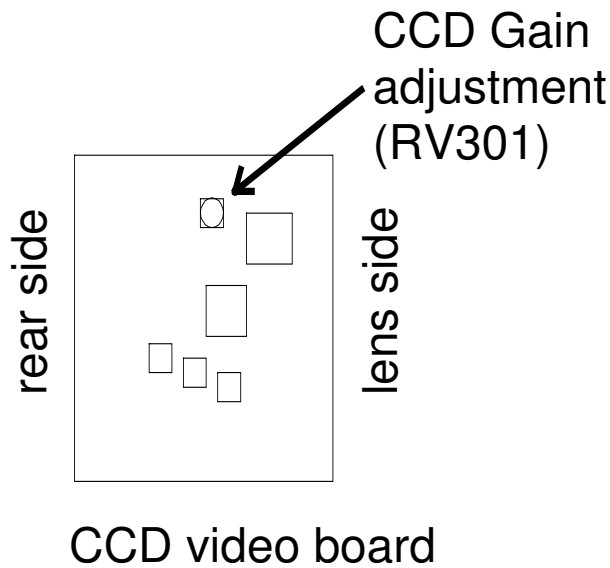

Fig 5 Gain adjustment potentiometer inside the CCD camera of the Readout Unit
- Remove the 6 screws that hold the cover of the Readout Unit and look at the panel at the rear side of the CCD camera (see fig.5).